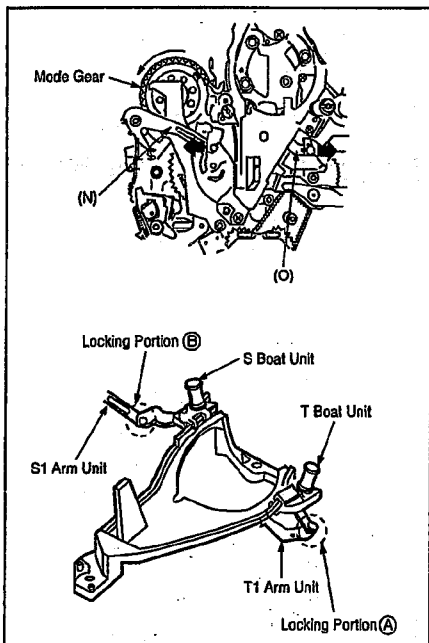
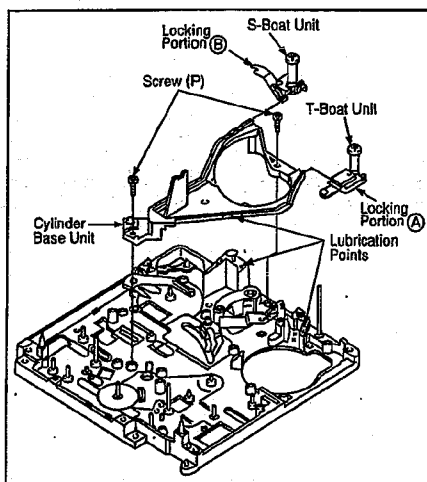
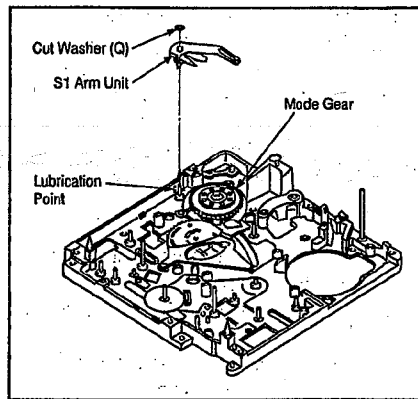
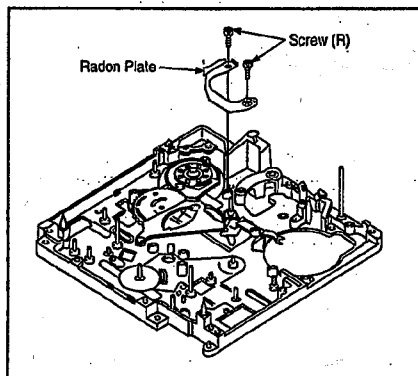

Fig. M22
Fig. M23
Fig. M24
Fig. M25
12. S1 & T1 Base Fig. M22 Turn the Mode Gear to counter-clockwise until half loading position.
- Hold (N) and (O) positions on S1 and T1 Arm units and unlock the locking portions (A) and (B) with tweezers.
- Fig. M23 Remove 2 screws (P) and Cylinder Base Unit with S and T Boat Units. Then remove S and T Boat Units from the Cylinder Base Unit.
- Then connect the locking portion (A) and (B).
13. S1 Arm Fig. M24 Turn the Mode Gear to fully counter-clockwise.
- Remove the Cut Washer (Q) and S1 Arm Unit.
14. Radon Plate, Radon Arm & T1 Arm Fig. M25 Unscrew 2 screws (R) and remove Radon Plate.